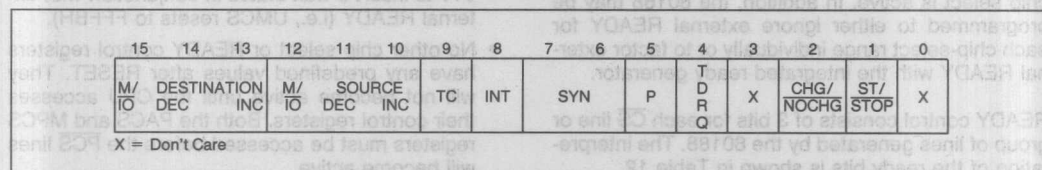

Figure 17. DMA Control Register
The format of the DMA Control Blocks is shown in Table 13. The Transfer Count Register (TC) specifies the number of DMA transfers to be performed. Up to 64K byte transfers can be performed with automatic termination. The Control Word defines the channel's operation (see Figure 17). All registers may be modified or altered during any DMA activity. Any changes made to these registers will be reflected immediately in DMA operation.